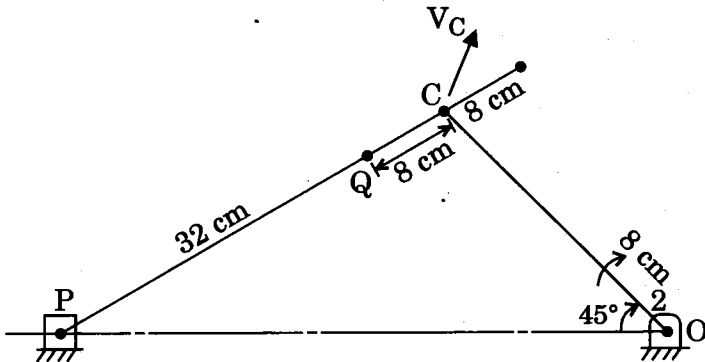

Figure 2
2. (a) In the slider crank mechanism shown in Figure 2, the crank OC makes 80 r.p.m. in clockwise sense. Determine the linear velocity of the slider and angular velocity of the connecting rod PC. Also find out the linear velocity of point Q on the connecting rod. Lengths of crank and connecting rod are 8 cm and 32 cm respectively. 10